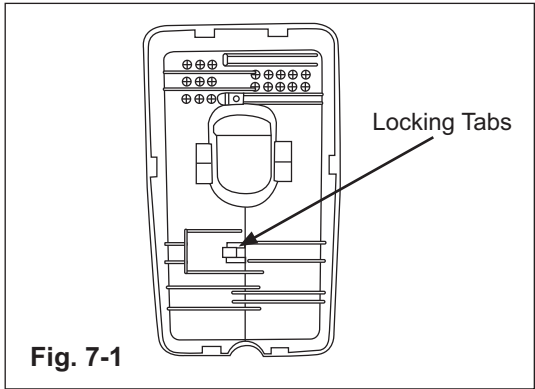

Fig. 7-1
- a) Locate locking tabs on backside of rain sensor cover. (Fig. 7-1)